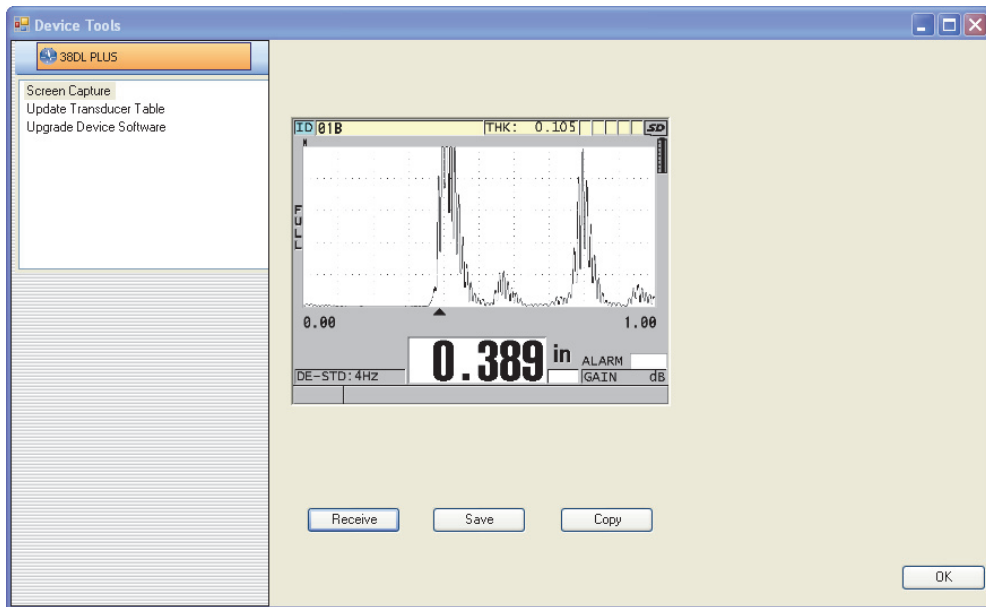

Figure 14-11 The Device Tools dialog box with a screen capture
- b) In the **Device Tools** dialog box (see Figure 14-11 on page 280), select **Screen Capture**, and then click **Receive**.